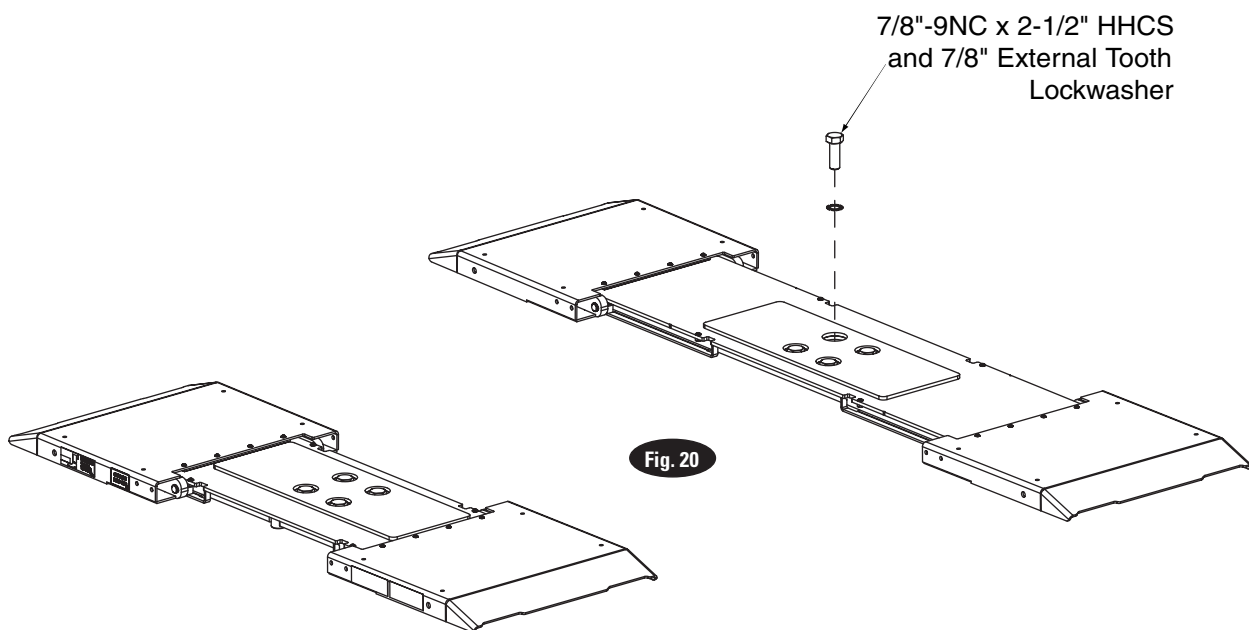

Fig. 20
- 1. Install pads on lift using 7/8"-9NC x 2-1/2" HHCS and 7/8" external tooth lockwasher and torque to 150 ft.-lbs, Fig. 20.